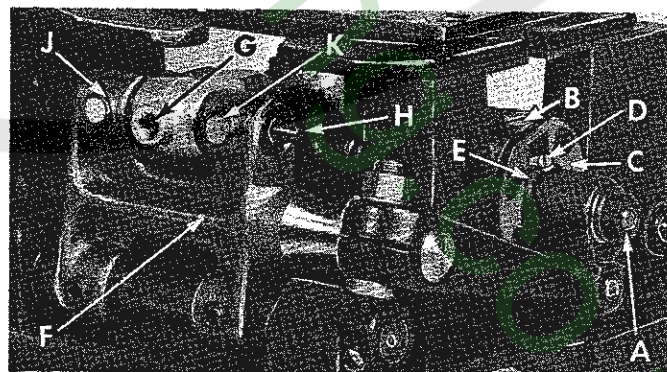

Fig. 10
Set the stitch to required length. This is accomplished by loosening the locknut (A, Fig. 10) $1/2$ turn (it has a left hand thread) on the end of the stitch regulating stud and turning the stitch adjusting screw (B) located under the left end of the cloth plate, in the head of the mainshaft (C), which is marked with "L" and "S". Turning the screw clockwise shortens the stitch (moves stitch regulating stud toward the "S") and turning it in a counterclockwise direction lengthens the stitch (moves stitch regulating stud toward the "L"). Retighten the locknut securely.
The needle bearings in the feed rocker (F, Fig. 10) should be checked and lubricated once a year. This can be accomplished as follows. Loosen allen screw (G), and remove shaft (H). Now, repack bearings.
When packing bearings, the parts must be clean and grease should be applied directly from the tube to avoid contamination. Tube of grease can be supplied under the part number 28604 P. Greased bearings are located at (J, K, Fig. 10). If grease sealed bearings are replaced they should be pressed in flush with the casting. To assemble, start tapered end of shaft first, twisting slightly when entering the grease seals to prevent damage.